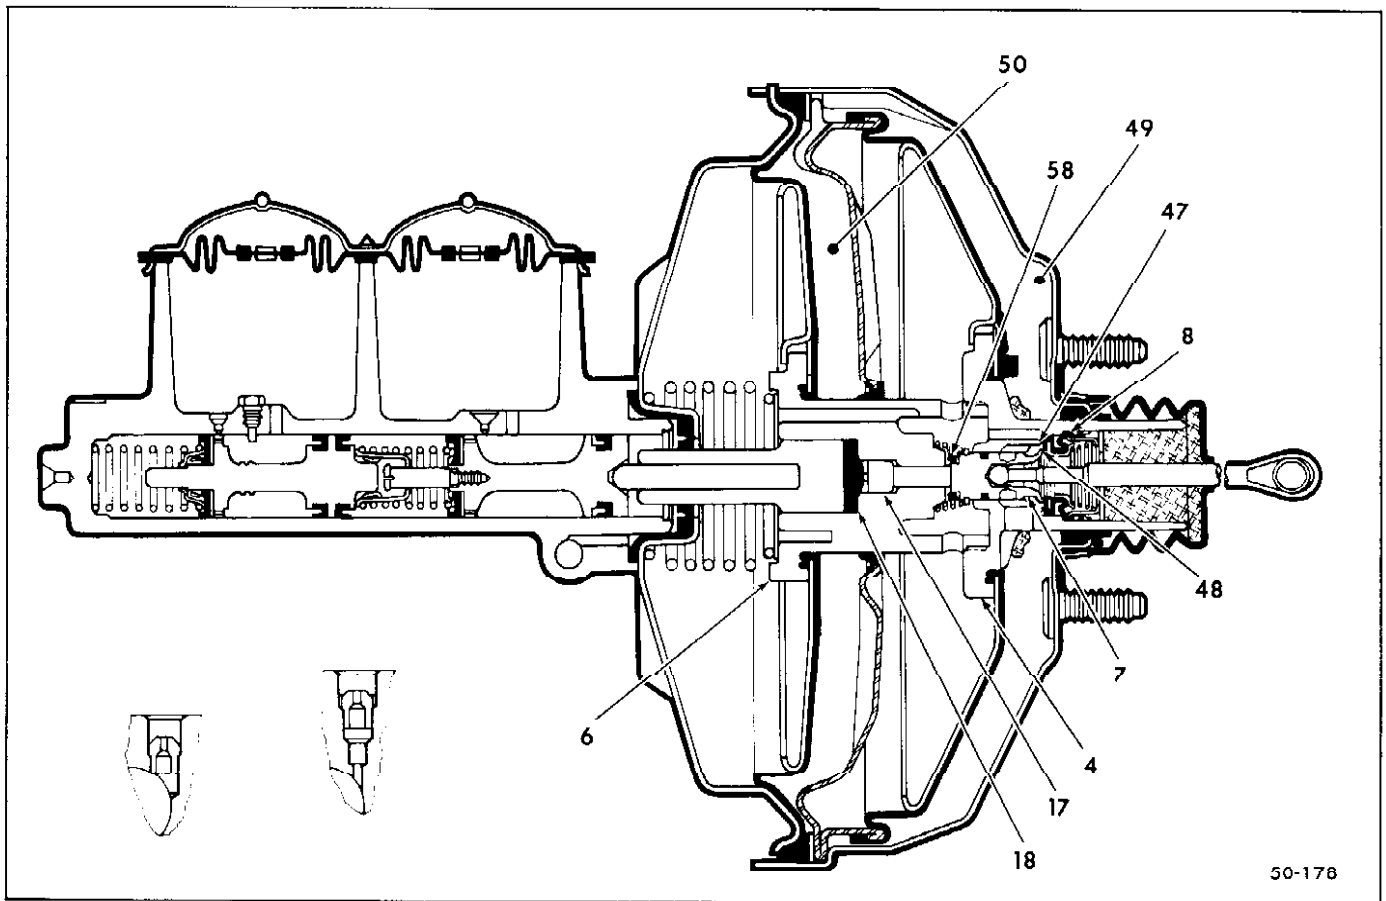

Figure 50-71 Holding Position
When the desired braking is reached and no additional pressure is applied to the brake pedal, the power brake will go into the holding or poised position. See Figure 50-71.
NOTE: Figure 50-71 illustrates a reaction bumper (58). This bumper is provided for noise control and will contact the secondary power piston only during brake applications that utilize the total available power brake assist.